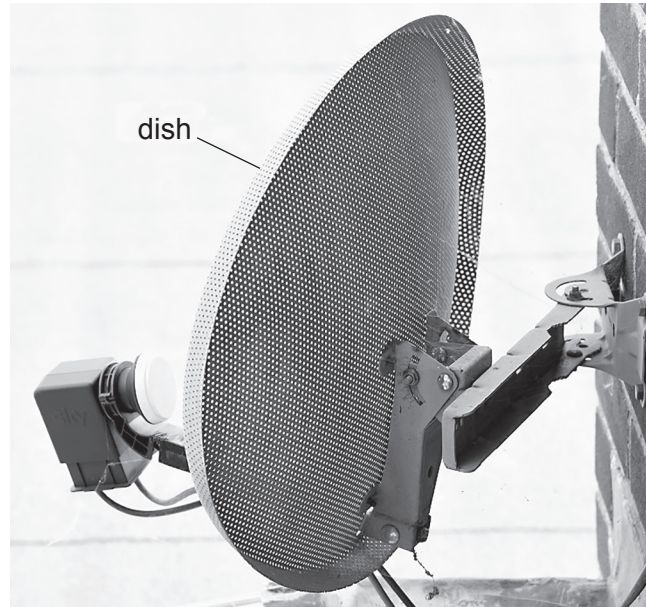

Fig. 1.1
- 1** Fig. 1.1 shows a satellite dish for a television.